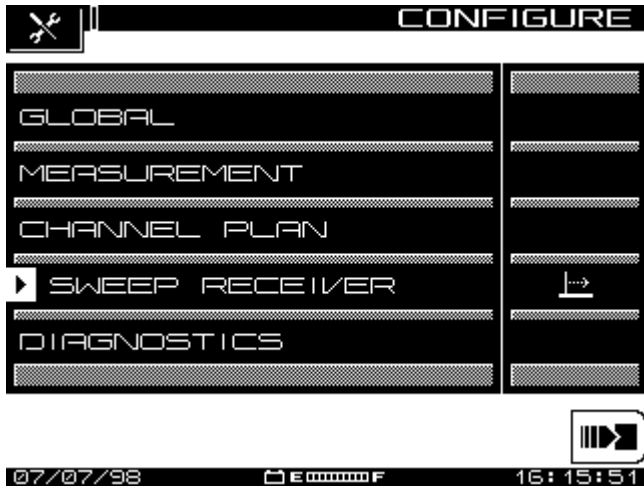

Figure 10-1: Configure Menu
A. Refer to Figure 10-1. The **Configure** menu includes five categories: **Global, Measurement, Channel Plan, Sweep Receiver, and Diagnostics**.